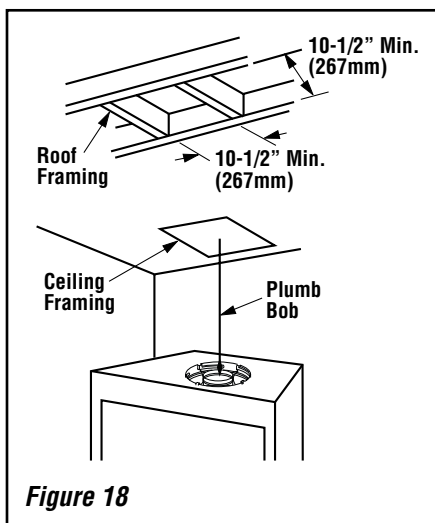

Figure 18
A. Frame ceiling opening - Use a plumb line from the ceiling above the appliance to locate center of the vertical run. Cut and/or frame an opening, 10-1/2" x 10-1/2" (267mm x 267mm) inside dimensions, about this center mark (**Figure 18**).
C. Frame ceiling opening - If the vertical route is to penetrate a ceiling, use plumb line to locate the center above the appliance. Cut and/or frame an opening, 10-1/2" x 10-1/2" (267 mm x 267 mm) inside dimensions, about this center (refer to **Figure 18** on **Page 14**).